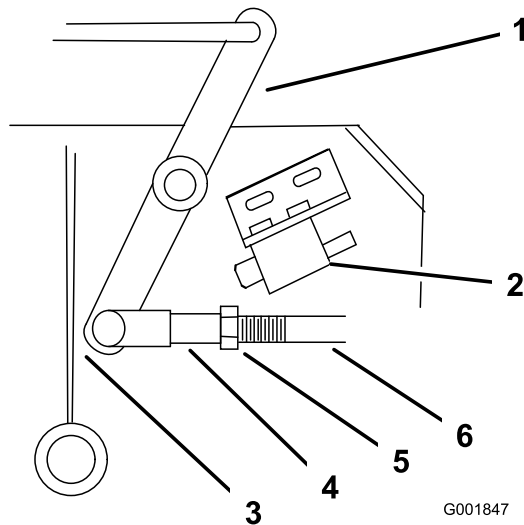

Figure 49
4. Adjust the linkage length to where the lower end of the bellcrank just clears the axle support gusset (Figure 49).
9. Loosen the nut against the yoke (Figure 49).